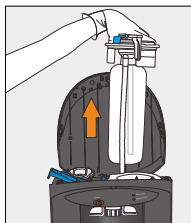

Figure 37
8. Pull SmartFlo™ Water Cartridge upwards to remove (Figure 37)